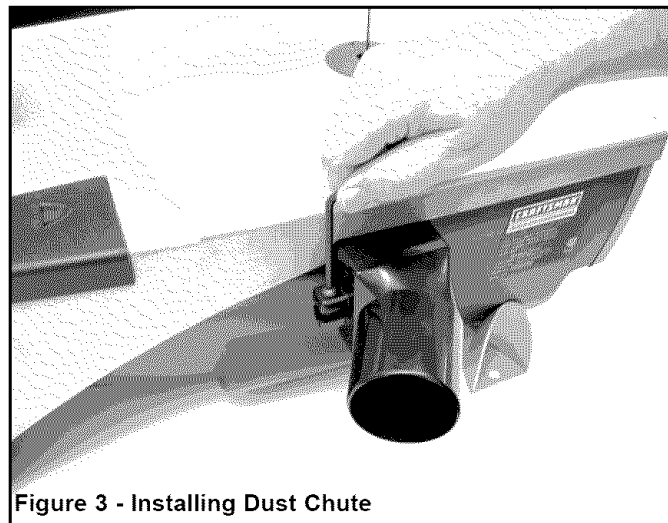

Figure 3 - Installing Dust Chute
- Slide dust chute over fan housing. Secure in position with screw (see Figure 3).